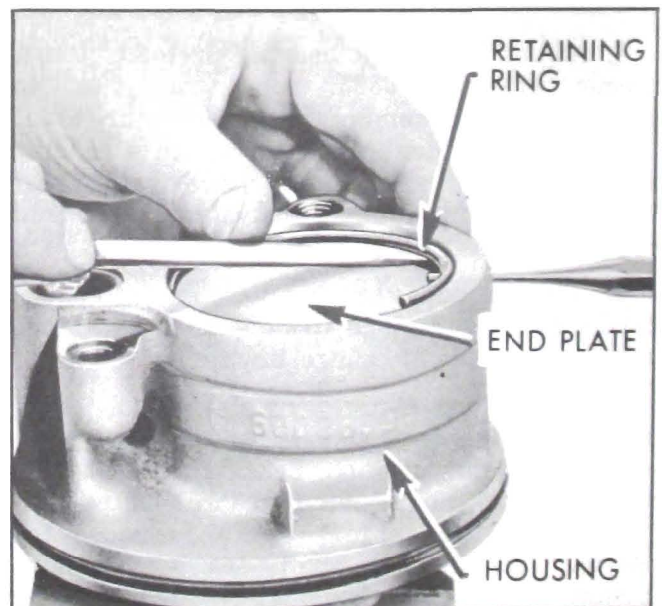

Figure 8-66—Removing End Plate Retaining Ring
9. Rotate end plate retaining ring until one end of ring is over hole in housing. Spring one end of ring with 1/8" punch to allow screw driver to be inserted and lift ring out. See Figure 8-66.